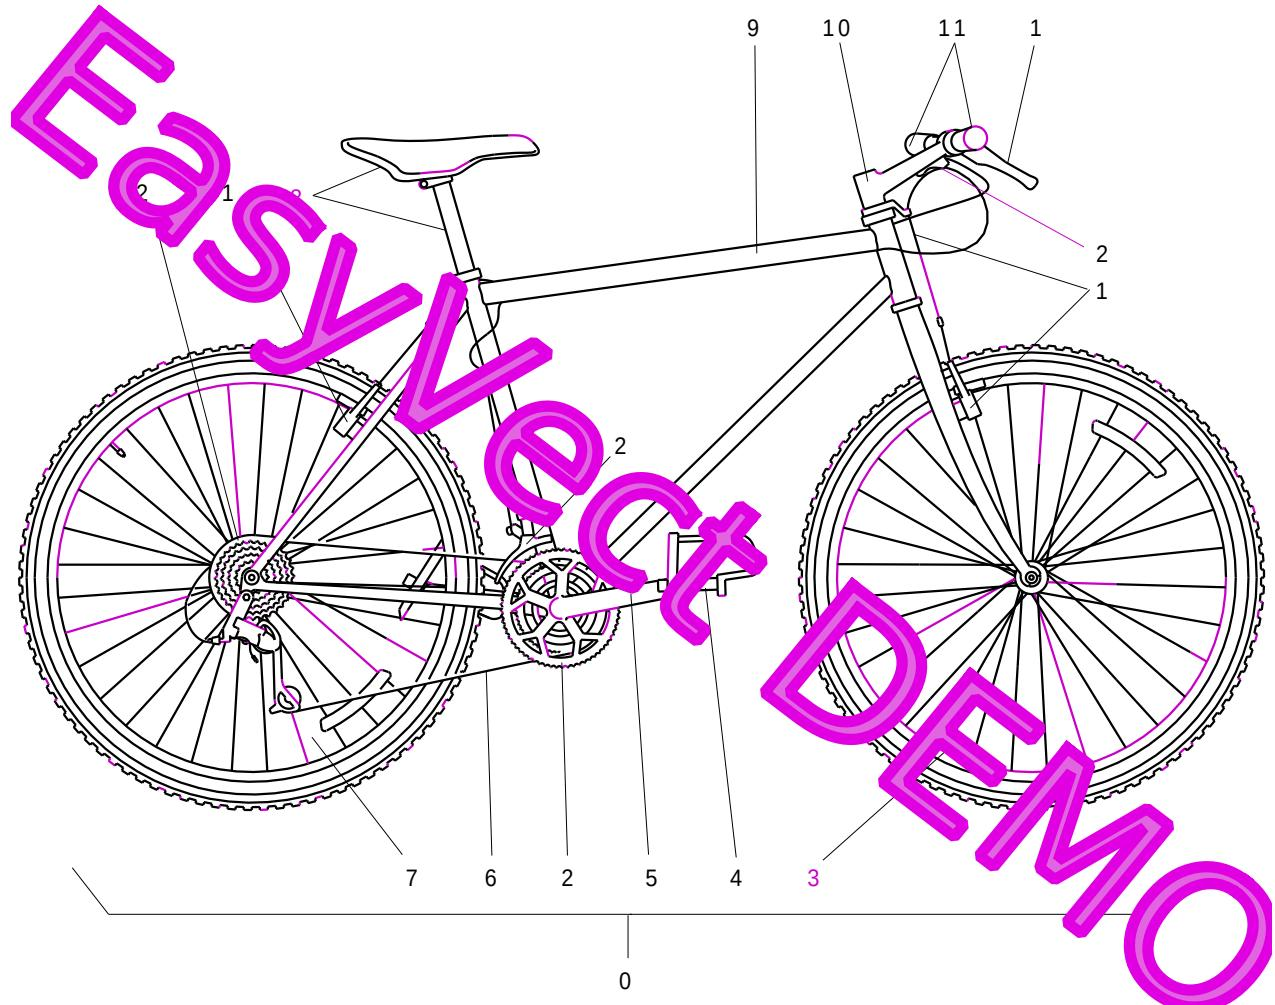

Figure 1 Complete bicycle (Sheet 1 of 1) (Applicable to: All)
Figure 1 Complete bicycle \(Sheet 1 of 1\)
A bicycle (refer to Figure 1 \(Sheet 1 of 1\)) is a frame and a number of movable components with mechanical parts that are completely open. There are no covers or sheet metal panels that prevent access to the mechanical parts. Thus, you can disassemble the different components of a bicycle (refer to Figure 1 \(Sheet 1 of 1\) item 0) to do:
Figure 1 Complete bicycle \(Sheet 1 of 1\) \(Applicable to: All\)
- Rear wheel	<a href="#">Figure 1 (Sheet 1 of 1) item 7</a>
- Front wheel	<a href="#">Figure 1 (Sheet 1 of 1) item 3</a>